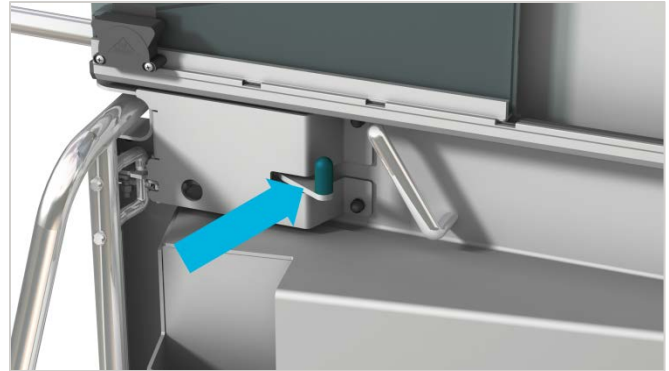

Figure 1 – Push knob in an outward direction.
1. To release push knob in an outward direction as shown in **Figure 1**.